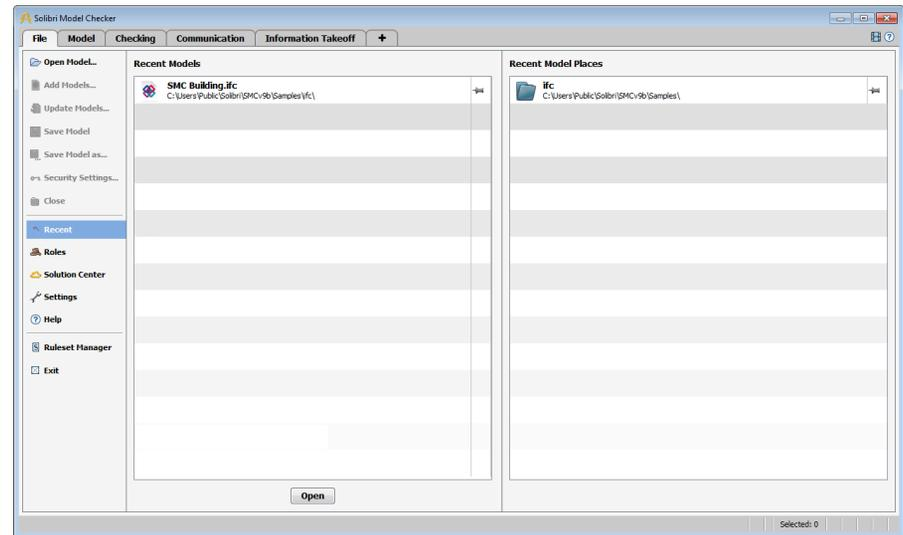

Figure 3 File Layout and "Recent Files"
- 1) The main window of SMC is opened and you'll see the **File Layout** (see Figure 3)